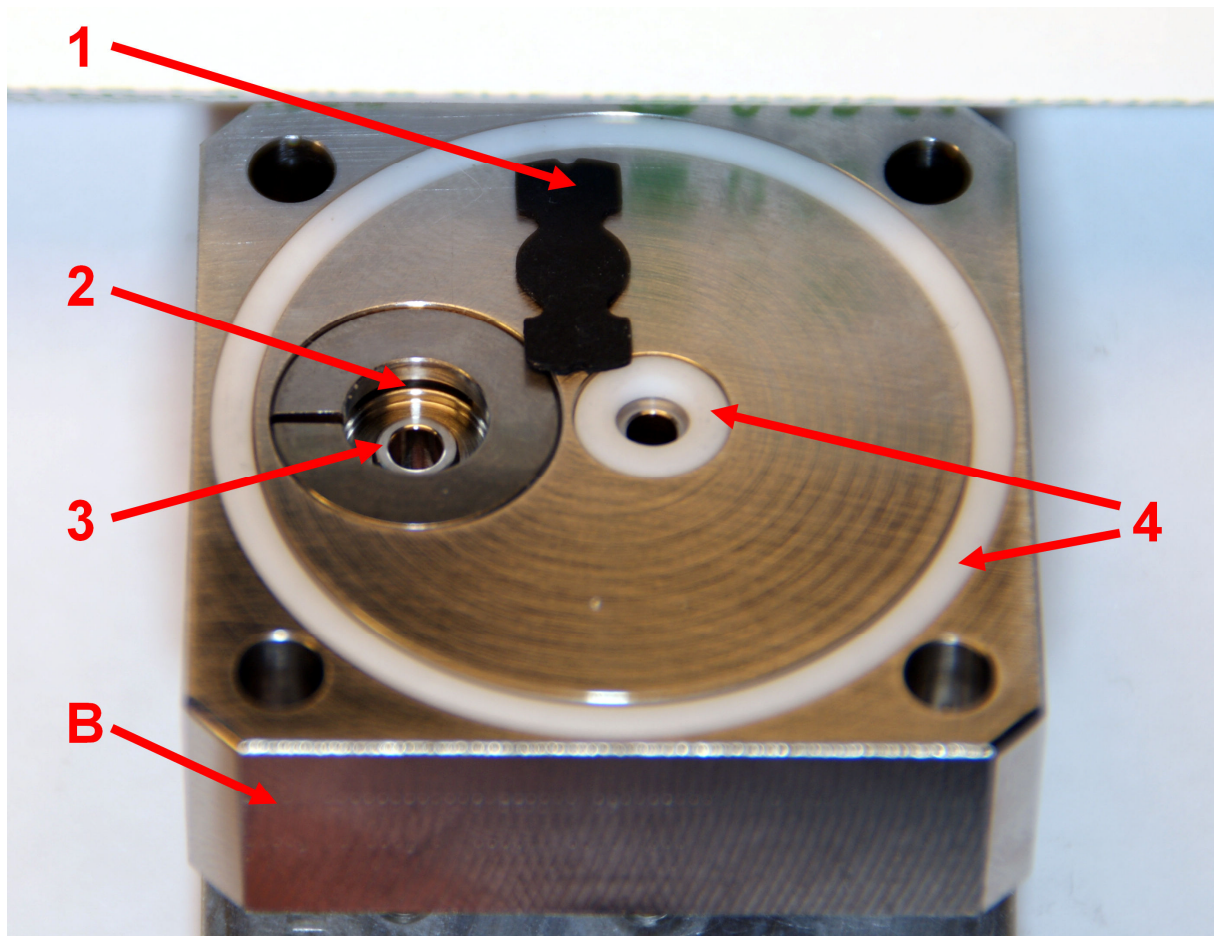

Fig. 3: SGP5 part "B"
- carefully lift the valve platelet from the slit "2" (Fig. 3), using a pair of tweezers
- clean the valve platelets "1" (Fig. 3) using water and/or isopropyl alcohol
- clean the valve seats "3" (Fig. 3) using a Q-tip or similar
- the fittings must point into the same direction as in Fig. 3,